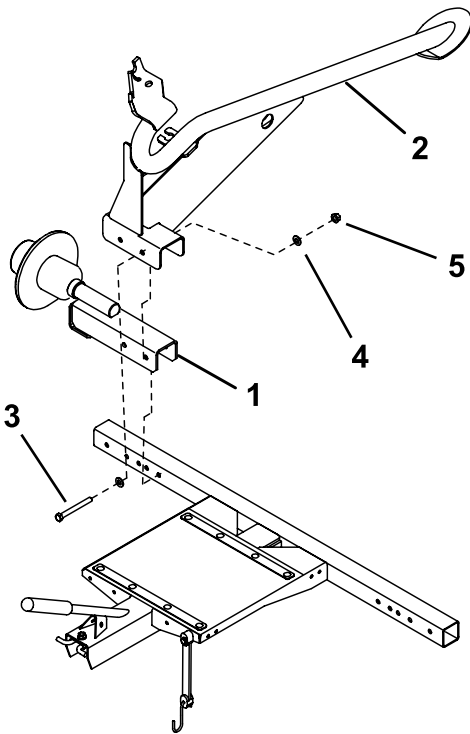

Figure 4
2. Mount the axle assembly and a ramp assembly (Figure 3) or rail assembly (Figure 4) to each end of the frame with 2 bolts (3/8 x 3 inches), 4 washers, and 2 nuts.